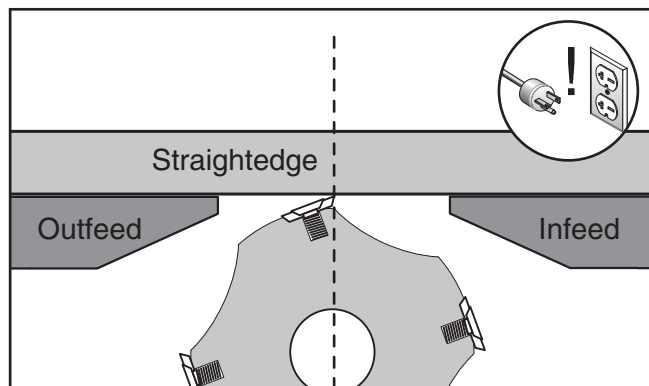

Figure 58. Infeed table even with outfeed table.
2. Use the straightedge as a guide to adjust the infeed table exactly even with the outfeed table, as shown in **Figure 58**.